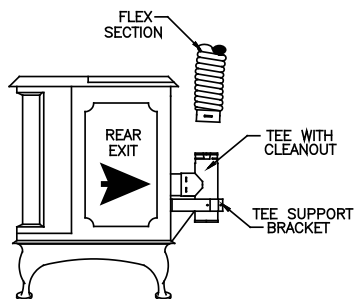

Figure 22
9. If a Tee or Tee Adapter is necessary to make the connection, as shown in **(Figure 22)**, the Tee has a removable Clean out Adapter on its base to enable cleaning. The Tee Support Bracket to hold the Tee to the rear of the appliance is mandatory. If it is desired to mount the Tee Support to the rear of the stove, obtain approval from the manufacturer of the stove before drilling, tapping, or performing any other alterations to the appliance.